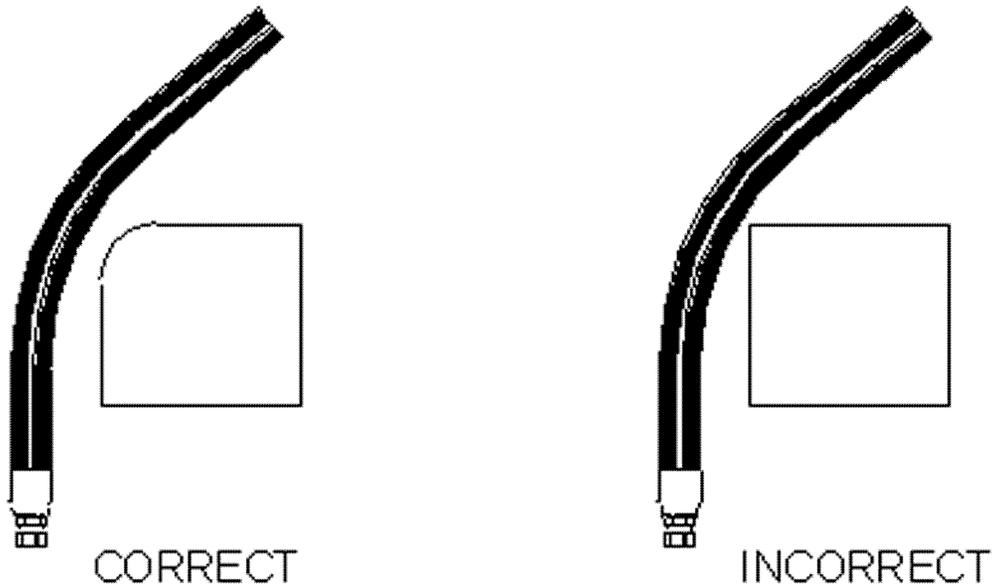

FIGURE 1—PREVENTION OF EXTERNAL DAMAGE
5.16 Hose Cover Protection—Protect the hose cover from abrasion, erosion, snagging, and cutting. Special abrasion-resistant hoses and hose guards are available for additional protection. Route hose to reduce abrasion from hose rubbing other hose or objects that may abrade it. (See Figure 1)